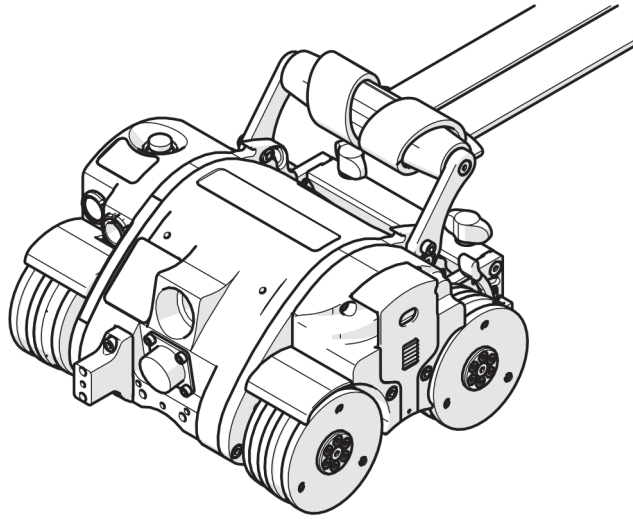
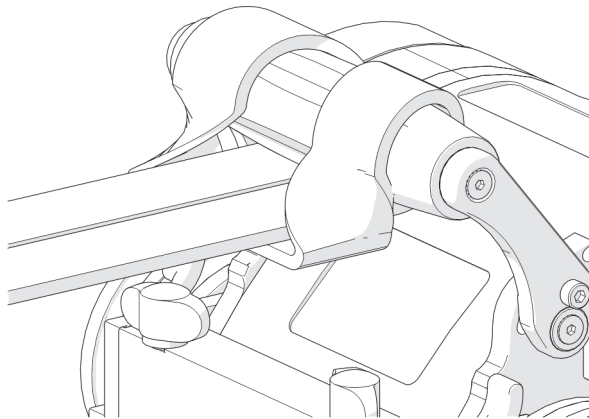

Figure 1-2 Attach the lifting sling with a choker hold knot
Figure 1-3 Attach the lifting sling with a choker hold knot (closeup view)
1. Wrap the supplied lifting sling around the handle of the MapROVER crawler using a choker hold knot (see Figure 1-2 on page 37 and Figure 1-3 on page 37).